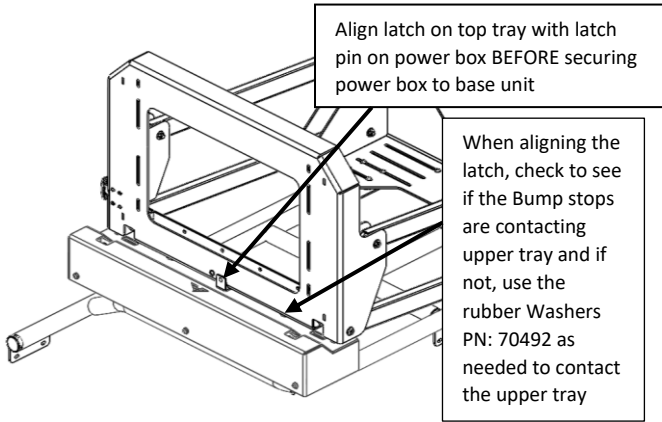

Figure 10: Aligning Power Box Enclosure with Lower Lift Assembly
9. Verify alignment of the Power Box Enclosure with lower lift assembly by loosely replacing the Power Box Enclosure cover and latching the center pin (Figure 10). Adjust Power Box Enclosure as needed to align latch mechanism. Verify for squareness between Power Box Enclosure / Lower Lift Assembly / Baes Unit.